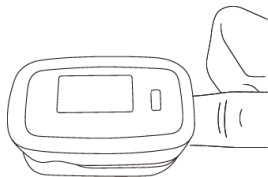

Figure 5 Sketch map for finger placement
- The finger should be placed correctly (see Attached figure 5), as improper installation or improper contact position for sensor will influence the measurement.
- Open the clip as shown in Figure 5.